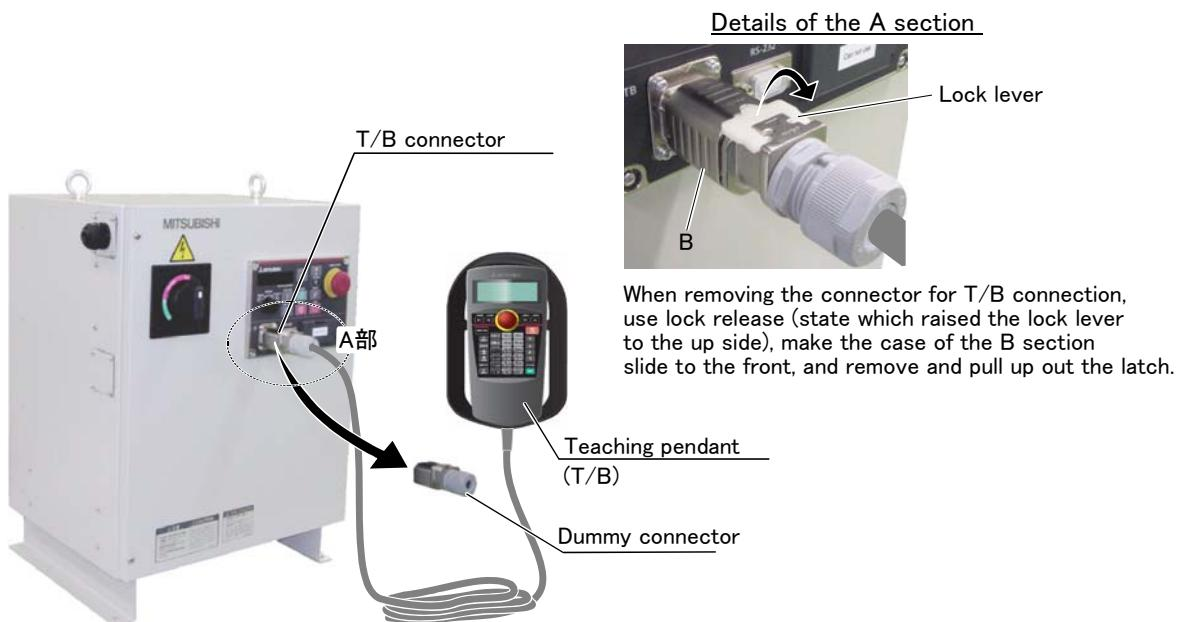

図 2-13 : Installing and removing the T/B
- 2) Connects T/B connector to the robot controller. Use as the upper surface the lock lever shown in Fig. 2-13, and push in until there is sound.